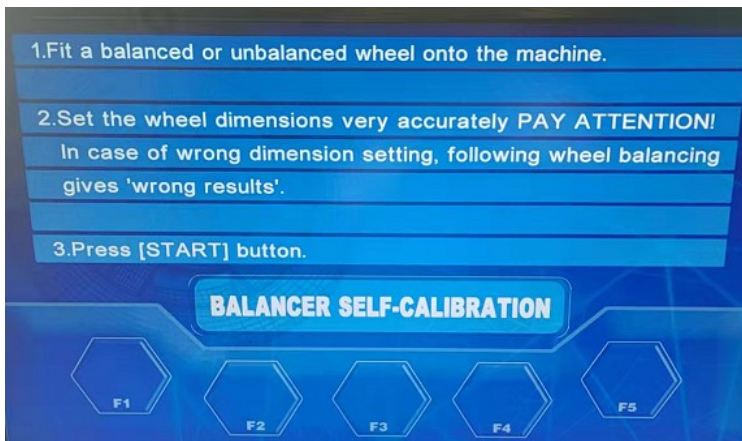

Fig.3
2.3 "System self-calibration" When the balancer accuracy changes after a period of time, choose this function, as prompt steps do self-calibrated can update balancing accuracy. (Figure 3)
Follow the instruction of Figure 3 to set wheel and secure it. (It is best to calibrate with 14-15 inch steel rim) press key "START" to start